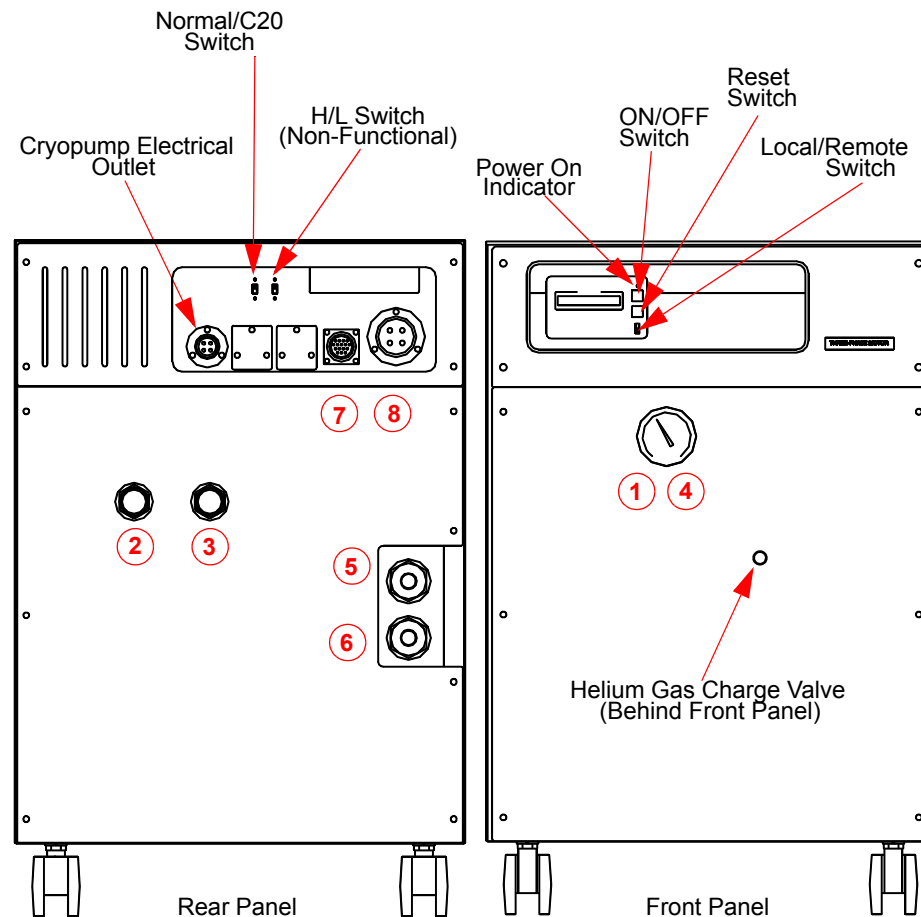

Figure 1: On-Board IS 1000 Compressor Installation Points
4. Read the Compressor helium pressure gauge located on the Compressor rear panel (see *Figure 1*). Compare the gauge reading to the appropriate 50/60 Hz line frequency value (depending upon your system installation).